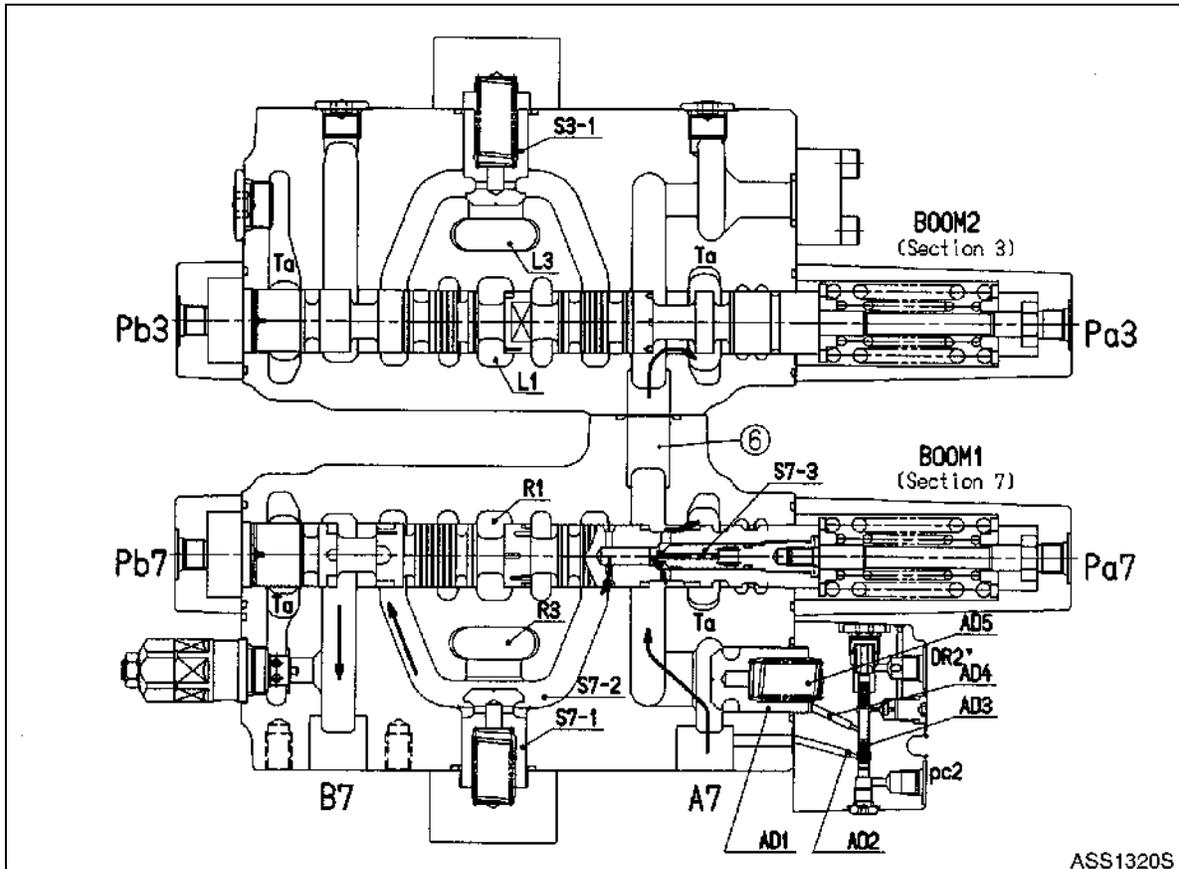

Figure 7 Boom Down
3. Boom down (regeneration) (Figure 7)